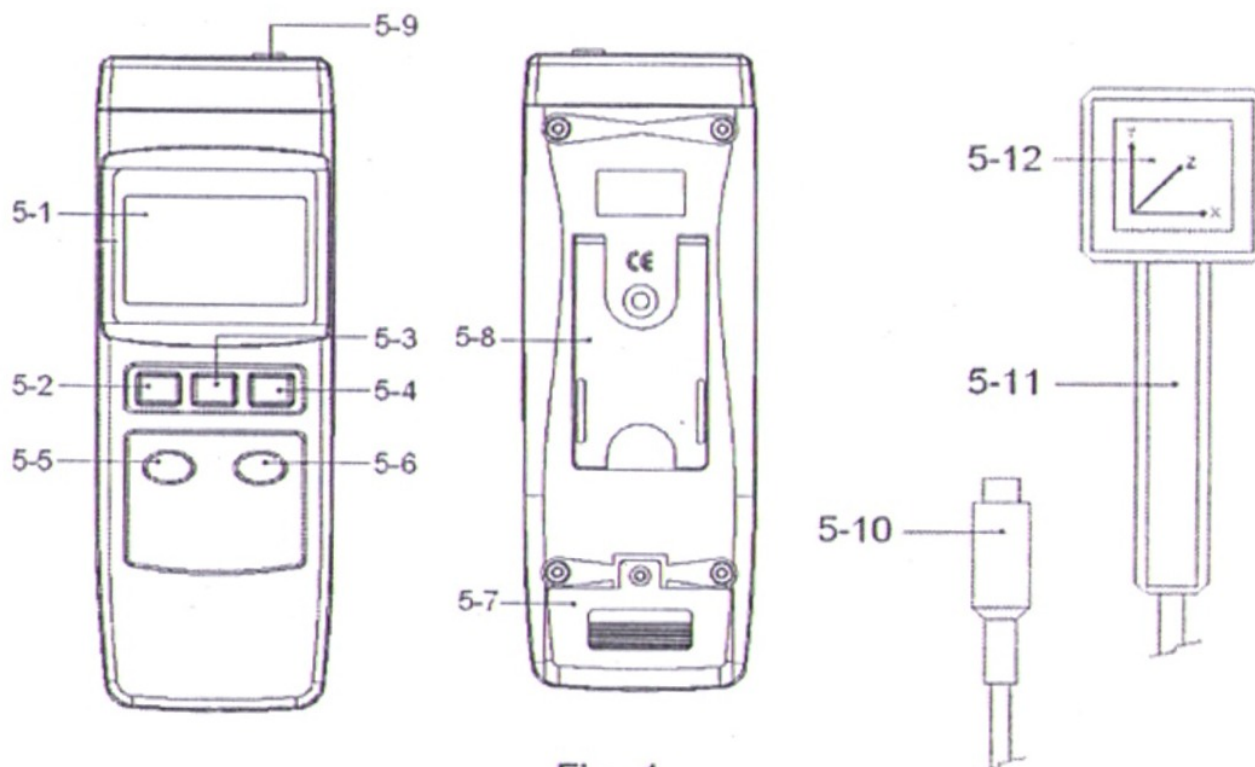

Fig. 1
- 1) Power ON the meter by pushing the " Power button " ( 5-2, Fig. 1 ).
- 2) Select the desired unit ( micro Tesla or mili-Gauss ) by pushing the " Unit button " ( 5-5, Fig. 1 ).
- 3) Use the " Range button " ( 5-6, Fig. 1 ) to select the suitable range. For the unknown EMF measurement, start with the highest range and keep decreasing until the higher resolution's reading is obtained.
- 4) Hold the " Probe handle " ( 5-11, Fig. 1 ), move the " Probe sensing head " ( 5-12, Fig. 1 ) slowly towards to the position of the object that is under measurement.
- 5) Use the " XYZ axis select button " ( 5-4, Fig. 1 ) to select the EMF value in the X, Y or Z axis.
- 6) During the measurement, if push the " Hold button " ( 5-3, Fig. 1 ) will freeze the display value. Push the " Hold button " again will release the Hold function.
- 2) Slide the " Battery Cover " ( 5-7, Fig. 1 ) away from the instrument and remove the battery.